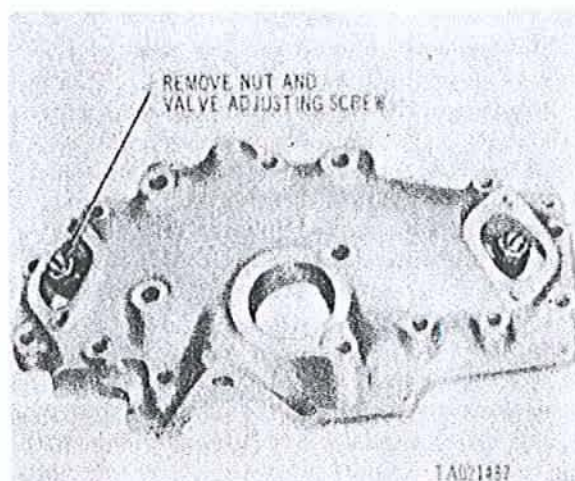
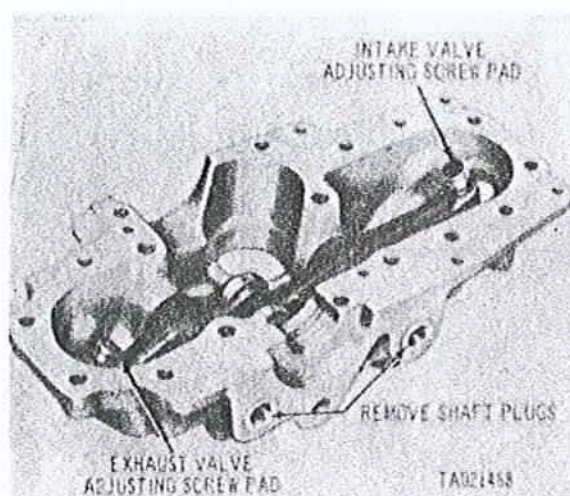
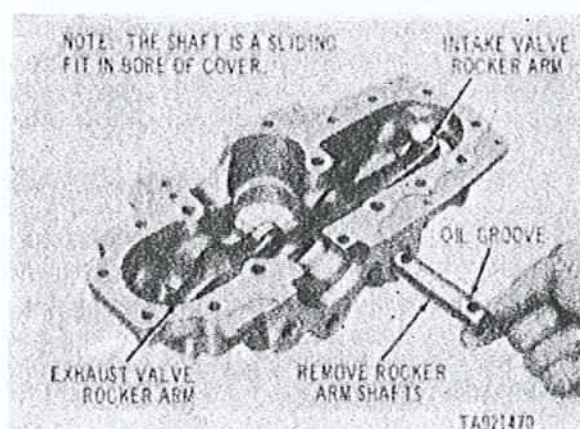
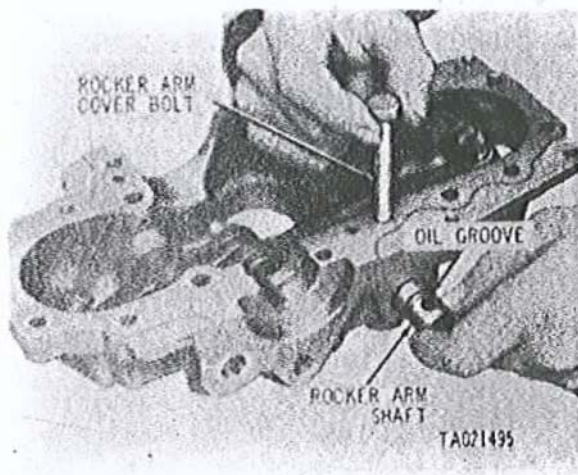

Figure 2-89. Removing or installing valve adjusting screw.
Figure 2-90. Removing or installing valve rocker arm shaft plugs.
Figure 2-91. Removing valve rocker arm shafts and valve rocker arms.
Figure 2-92. Installing valve rocker arms in rocker cover.
(13) Remove valve adjusting screw as shown in figure 2-89.
(14) Remove two valve rocker arm shaft plugs (fig. 2-90) and remove rocker arm shafts and rocker arms (fig. 2-91).
(1) Position valve rocker arms in rocker arm cover and insert valve rocker arm shaft (fig. 2-92) through bore in rocker arm cover and rocker arm. Use one rocker arm cover bolt (fig. 2-92) to align hole in shaft with bolt hole in cover. Push shaft into position without twisting, to retain alinement. Install rocker arm shaft plugs (fig. 2-90) and valve adjusting screws (fig. 2-89).